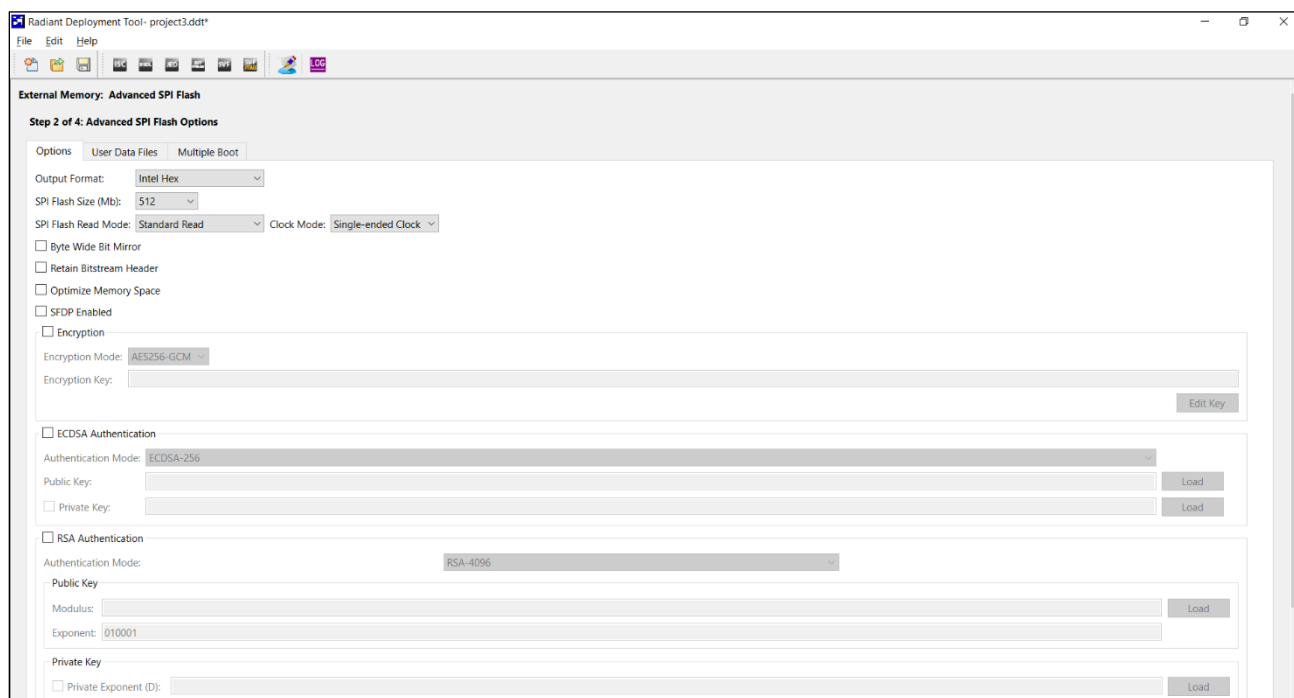

Figure 7.14. Advanced SPI Flash Options Window – Options Tab
- Edit the following options in the **Options** tab (Figure 7.14):